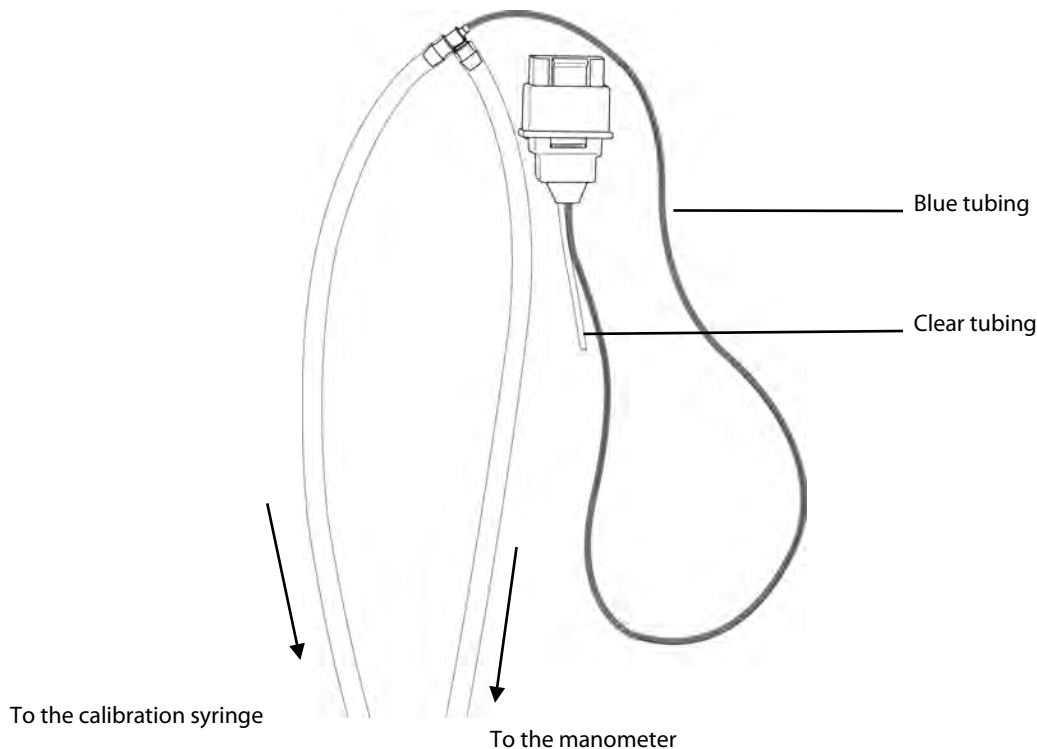
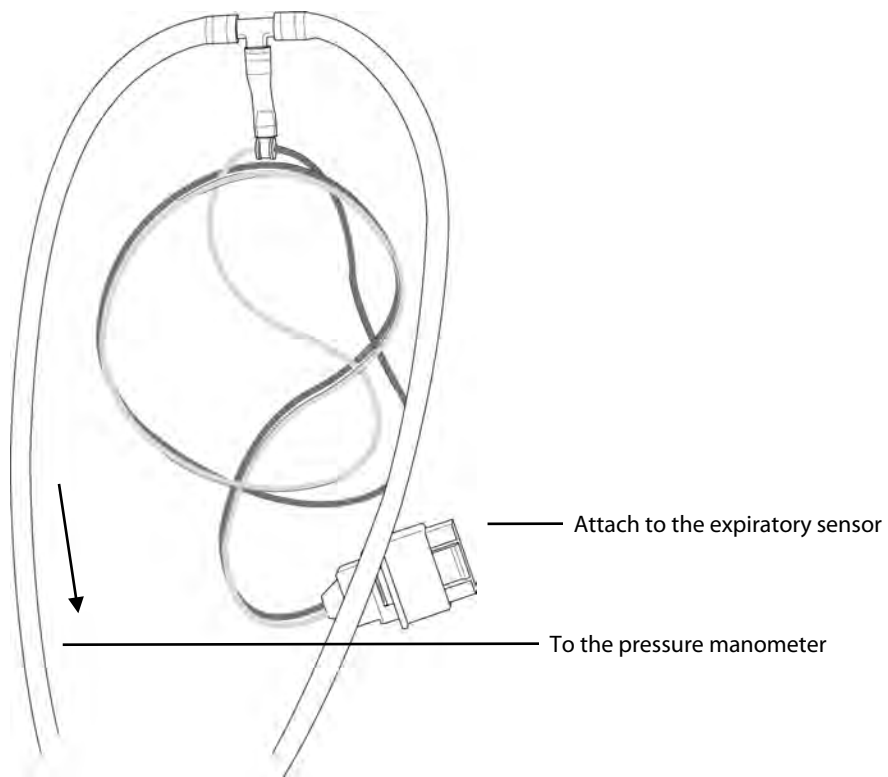
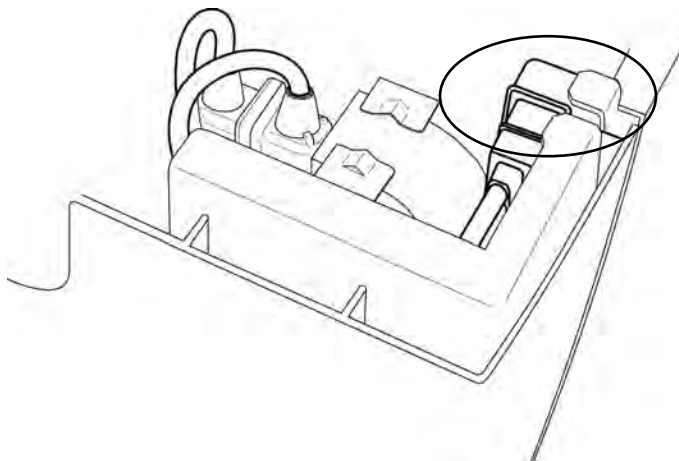

Figure 7.14
Figure 7.18
Figure 7.19 *Expiratory Sensor connector location*
3. Attach the calibration set up (Figure 7.14) to the Wye Flow sensor port on the front of the Avea. Attach the *blue tube only* of the Wye flow sensor to the basic calibration tubing assembly using a barbed fitting. Leave the clear tube unattached as shown here
2. Remove the expiratory flow sensor connector (see Figure 7.19).
4. Attach the calibration set up as in Figure 7.18 to the expiratory flow sensor port located in Figure 7.19.
2. With nothing attached to the expiratory flow sensor port (Figure 7.19) press the 0 cmH_2O touch screen button.
3. Using the same sensor connector and tubing setup as the wye flow calibration (Figure 7.14), carefully attach the setup to the expiratory flow port as shown in Figure 7.19.